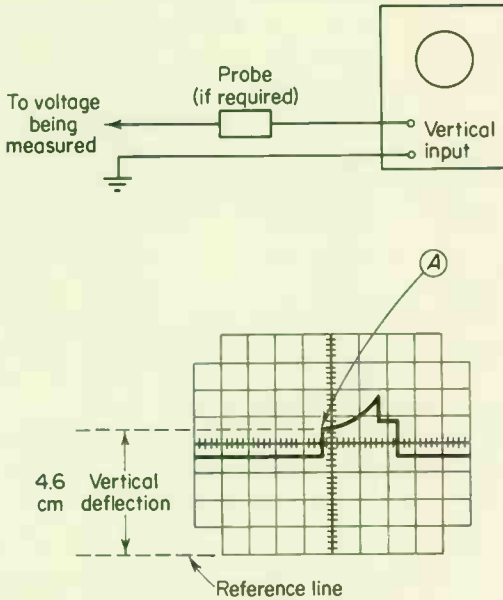

Fig. 6-3. Measuring instantaneous (or D-C) voltages.
1. Connect the equipment as shown in Fig. 6-3.
6. Using the vertical position control, position the trace to a line of the graticule below the center line, as shown in Fig. 6-3. This establishes the reference line. If the average signal (a-c plus d-c) is negative with respect to ground, position the trace to a reference line above the graticule center line. *Do not* move the vertical position control after this reference line has been established.
10. Measure the distance in centimeters between the reference line and the point on the waveform at which the d-c level is to be measured. For example, in Fig. 6-3, the measurement is made between the reference line and point *A*.
**Example:** Assume that the vertical distance measured is 4.6 cm (Fig. 6-3). The waveform is above the reference line, using a 10X attenuator probe and a vertical deflection factor of 2 volts/cm.
6. Using the vertical position control, position the trace to a line of the graticule below the graticule center line, as shown in Fig. 6-3. This establishes the reference line. If the average signal (a-c plus d-c) is negative with respect to ground, position the trace to a reference line above the graticule center line. *Do not* move the vertical position control after this reference line has been established.
**Example:** Assume that the vertical distance measured is 4.6 cm (Fig. 6-3). The waveform is above the reference line, using a 20X attenuator probe, a 10X position of the step-attenuator, and a calibration factor of 2 volts/cm.